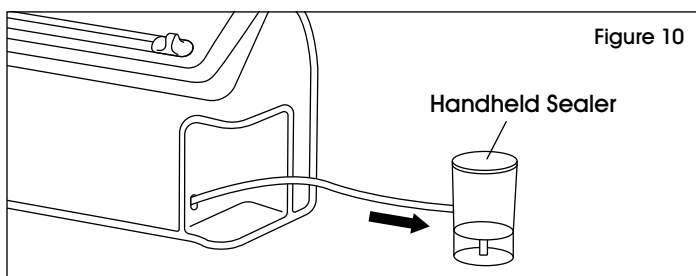

Figure 10
3. Pull out the built-in retractable handheld sealer to desired length. (See Figure 10)